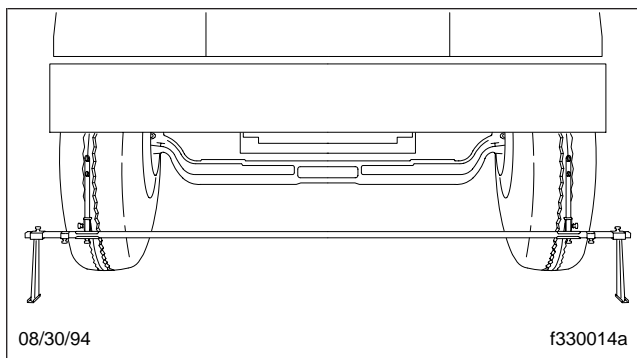
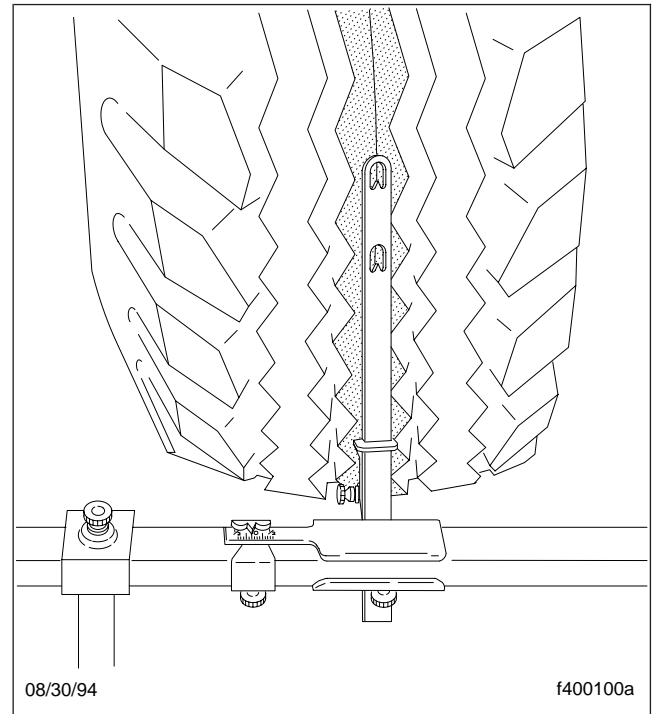

Fig. 6, Trammel Bar Positioning
Fig. 7, Setting the Trammel Bar Pointers
7. Move the trammel bar to the front of the tires (see **Fig. 6**), and adjust the scale end so that the pointers line up with the scribe lines. See **Fig. 7**.